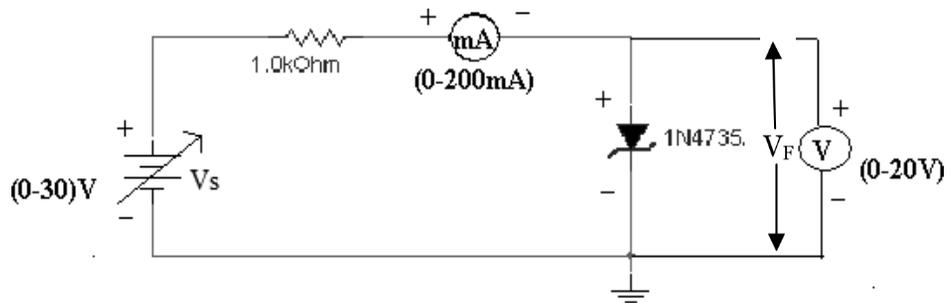

Figure 4.2: Zener diode in forward bias
1. Do not switch ON the power supply unless you have checked circuit connections as in figure 4.2
2. While doing the practical do not exceed the input voltage of the diode beyond the rated voltage of diode as given in datasheet. This may lead to damaging of the diode Connect the circuit as in figure 4.2
1. Connect the circuit as in figure 4.2